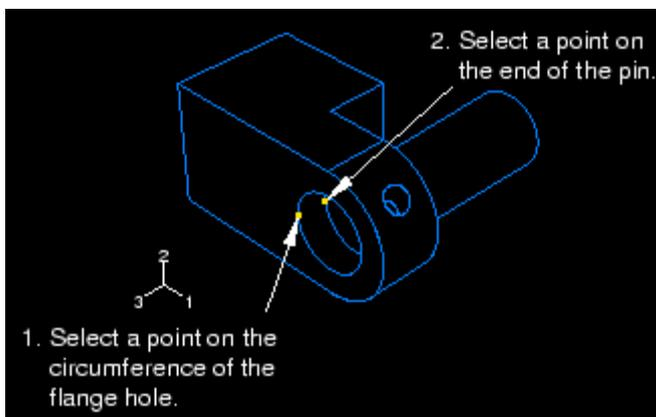

Figure C-34 Determining the position of the pin.
6. The **Distance** query allows you measure the *X*-, *Y*-, and *Z*-components of the vector connecting two selected points. You need to determine the distance between the end of the pin and the hinge containing the lubrication hole; the two points to select are illustrated in Figure C-34.